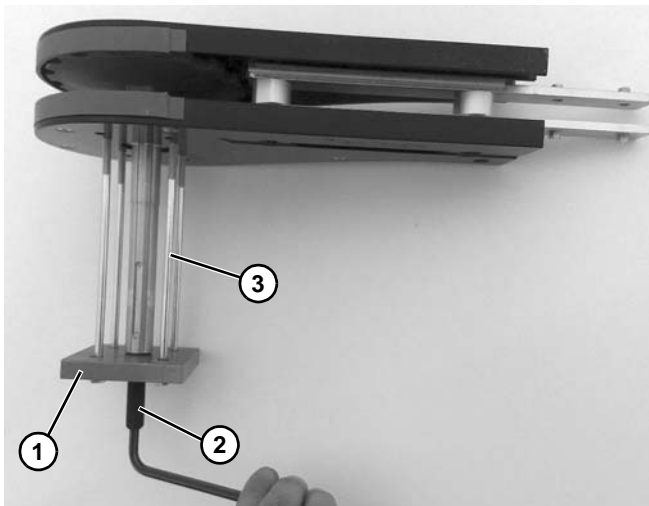
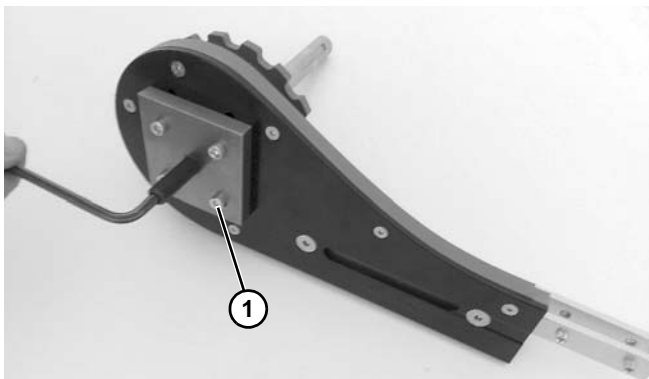

Figure 127
Figure 128
6. Use the bearing tool (**Figure 127, item 1**) to unseat bearings by inserting the four screws and turning the threaded rod (**Figure 127, item 2**) to push bearing out. **NOTE:** Insert the longer screws (**Figure 127, item 3**) on the drive shaft side and the shorter screws (**Figure 128, item 1**) on the non-shaft side.